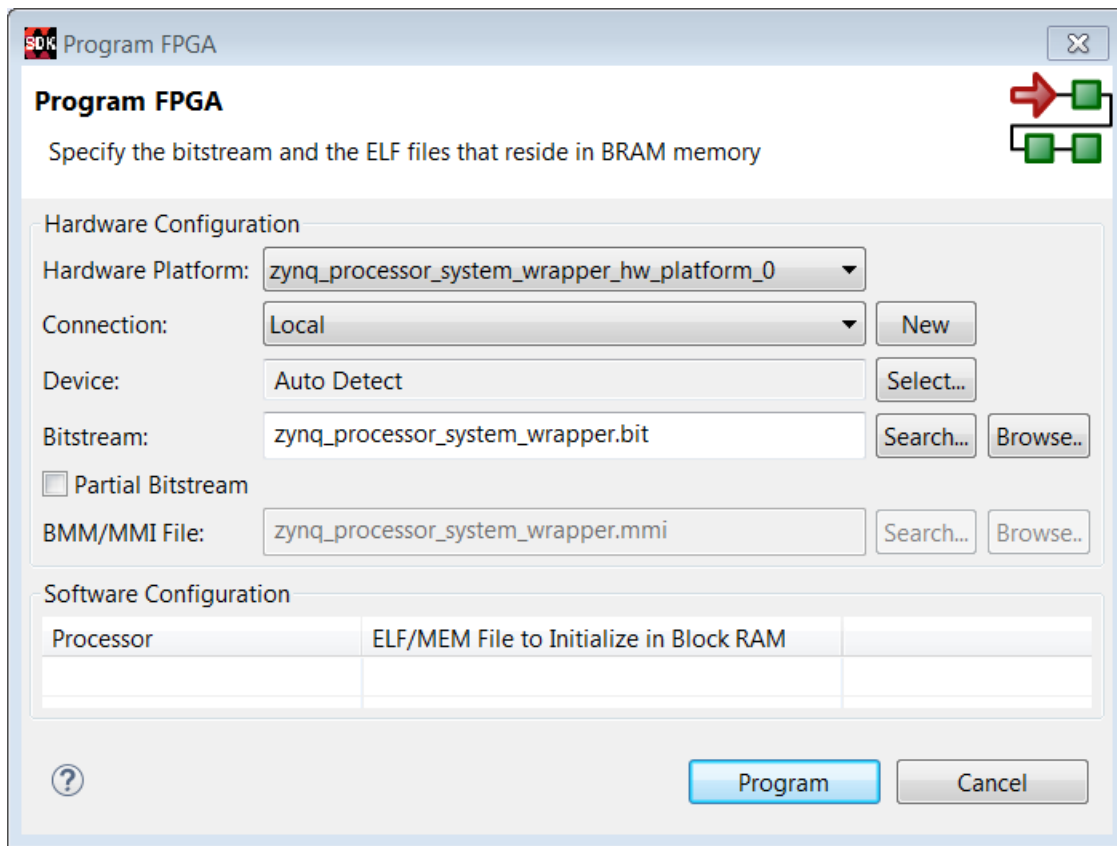

Figure 61: Program FPGA Dialog Box
12. Click the **Browse** button for Enable Cross-Triggering option as shown in Figure 61.